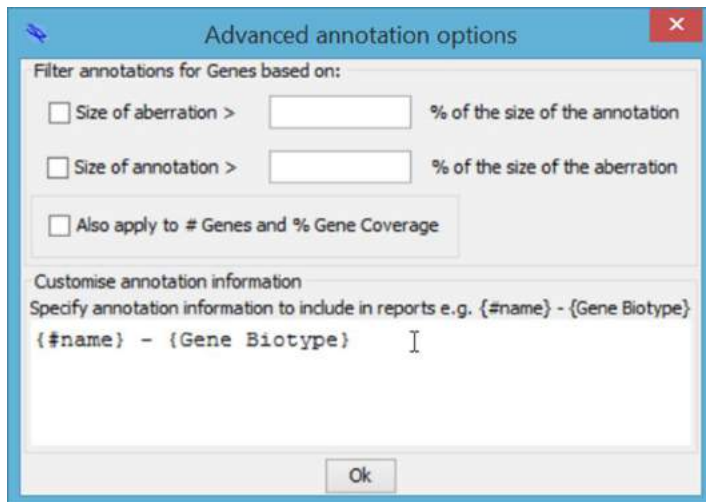

Figure 12: Setting the annotation reporting format.
3. In the **Customise annotation information** section of the **Advanced annotation options** window (Figure 12), enter the format to be used to report overlapping annotations in the selected track using the same dynamic field codes described in URL Composition. For example, to report the name of the annotation and the value of the “Gene Biotype” field, separated by a hyphen, set this value to “{#name} – {Gene Biotype}”.